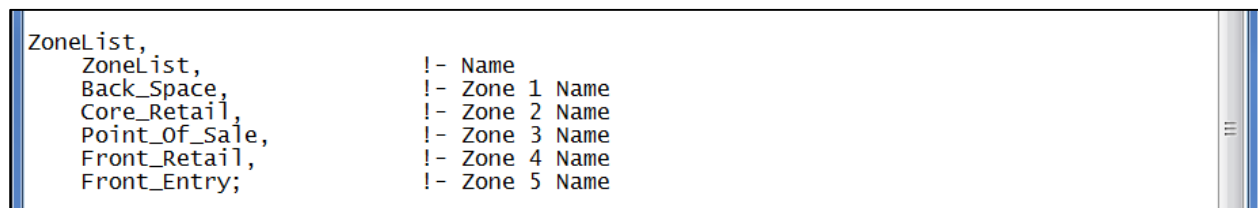

Figure 26. Example of ZoneList object inputs
- c. The feature creates one ZoneInfiltration:DesignFlowRate object that applies to the Zone or ZoneList Name “ZoneList” (**Figure 18**). Thus, you need to create a Zone List object in the EnergyPlus project file that contains the names of all the zones in the EnergyPlus project. An example is shown in **Figure 26**. You can find a list of all the zones in the EnergyPlus project file in the Zone object.